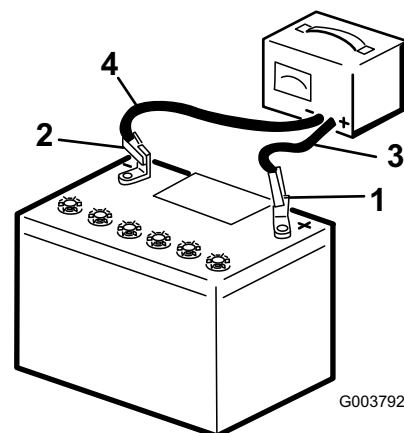

Figure 29
3. Charge the battery for 10 to 15 minutes at 25 to 30 amps or 30 minutes at 4 to 6 amps (Figure 29). Do not overcharge the battery.
disconnect the charger leads from the battery posts (Figure 29).